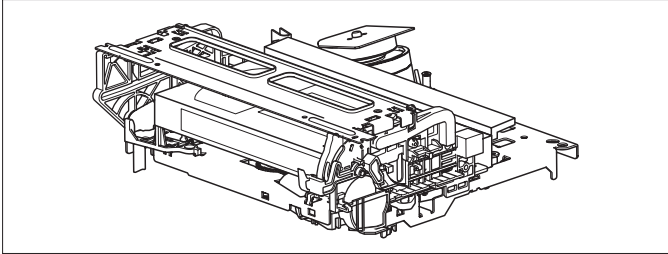

Fig. 1-1a
- (1) Unplug the power cord plug from the power outlet.
- (2) Refer to the disassembly procedure of the VCR and perform the disassembly of the major parts before removing the mechanism assembly. (refer to Fig. 1-1a)